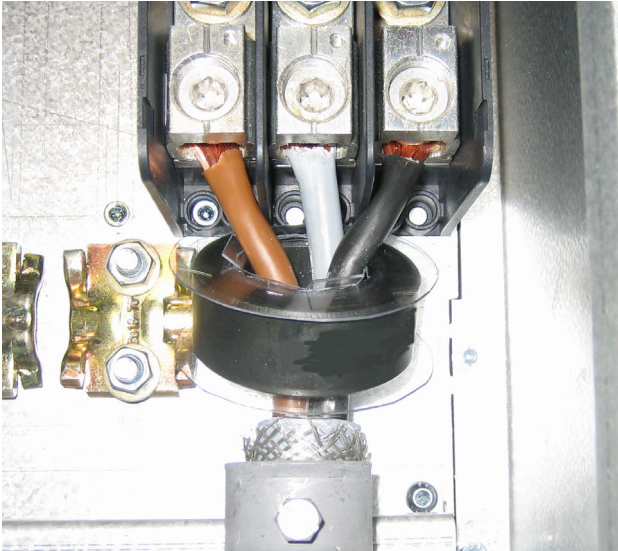

Fig. 55 Ferrite core mounted on the motor cables
Mount the ferrite core and its isolation sheet (included in the delivery) on the three motor phases U, V & W. The protective earth (PE) and the screen of the cable should be mounted outside the core see fig. 55.